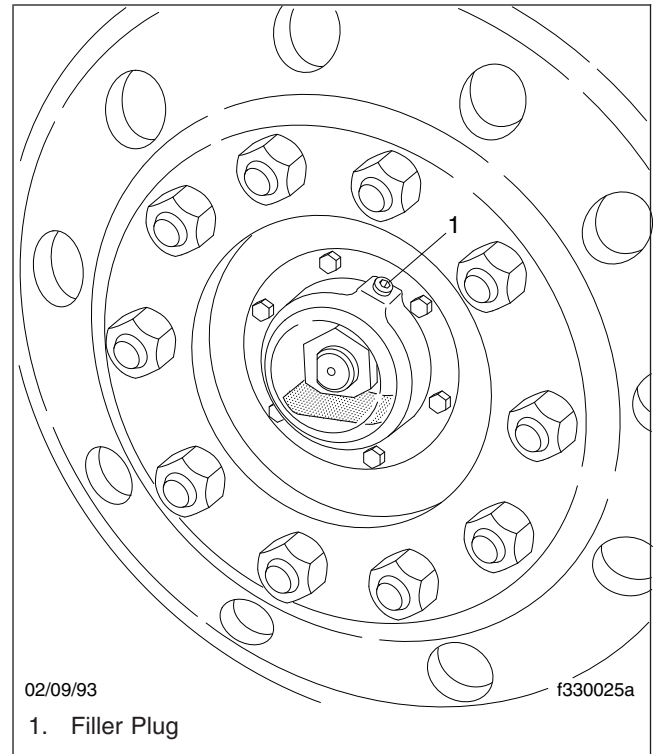

Fig. 6, Fill the Hub with Oil
15. Fill the hub with oil to the level shown on the hubcap. See Fig. 6. Do not overfill.